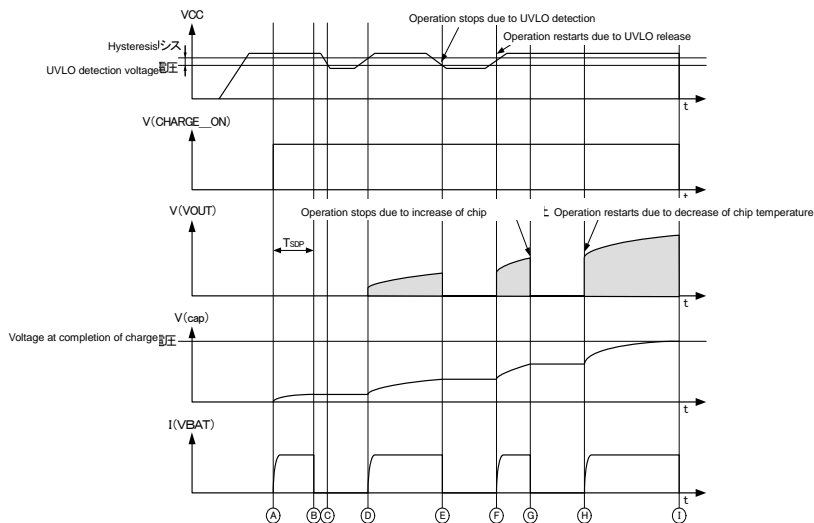

Fig.4 Timing Chart: Under Protective Circuit Operation
If the VCC voltage is reduced to the UVLO detection voltage specified in the electrical characteristics or less, the UVLO protective circuit is activated and the charging operation temporarily stops. (See Time ① and ② in Fig.4.) After that, when the VCC voltage becomes the UVLO release voltage or more, the charging operation automatically restarts. (See Time ③ and ④ in Fig.4.)
It protects the IC against thermal runaway due to excessive temperature rise ($T_j > 185^\circ\text{C}$, [TYP]). After detection, the charging operation temporarily stops (See time ⑤ in Fig.4.), and when the chip temperature decreases, ($T_j < 155^\circ\text{C}$, [TYP]), it automatically restarts. (See Time ⑥ in Fig.4.)
If the VOUT pin becomes the GND level due to any failure and the PowerTr repeats switching 2^{16} (=65536) times which is the SDP count number (TSDP) at the maximum OFF time, it is judged as an error and the charging operation is forced to be stopped. (See Time ⑦ in Fig.4.) If the CHARGE_ON pin is changed from "L" to "H" and the UVLO detection is released, it restarts.